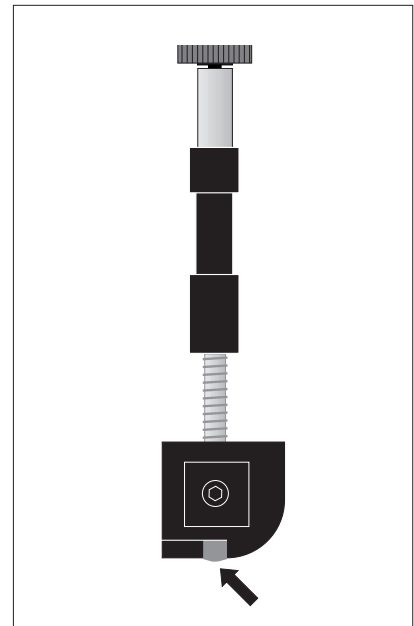

Figure 30. Bar Gate
- Bar Gate: The angled wedge begins to flatten excessively (Figure 30).